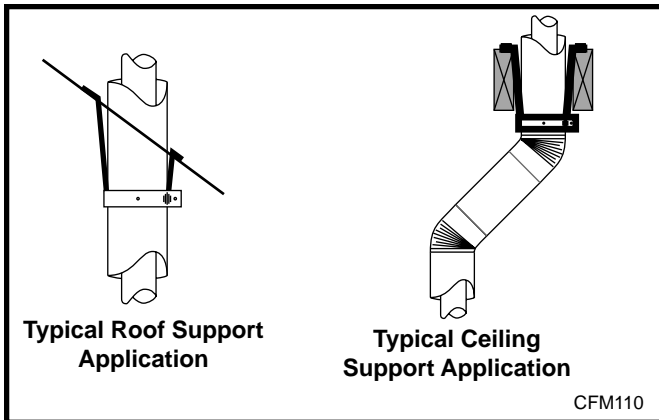
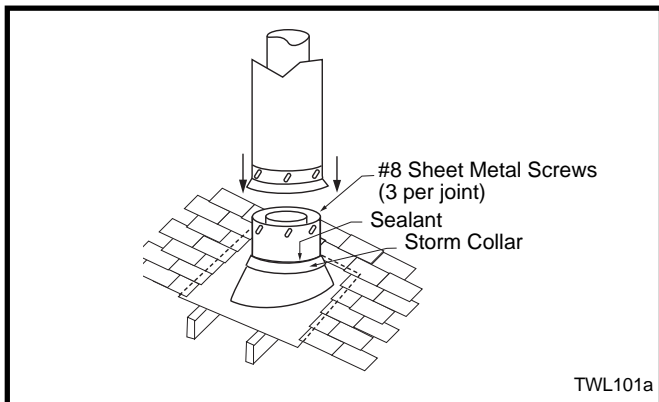

Fig. 31 Roof and ceiling supports.
Fig. 32 Roof flashing.
- 7DVCS must be used to support offsets. (Fig. 31)
7. Install roof support (Fig. 31) and roof flashing making sure upper flange of flashing is below the shingles. (Fig. 32)
8. Install appropriate pipe sections until the venting is above the flashing. (Fig. 32)
**The enlarged ends of the vent section always face downward. (Fig. 32)**